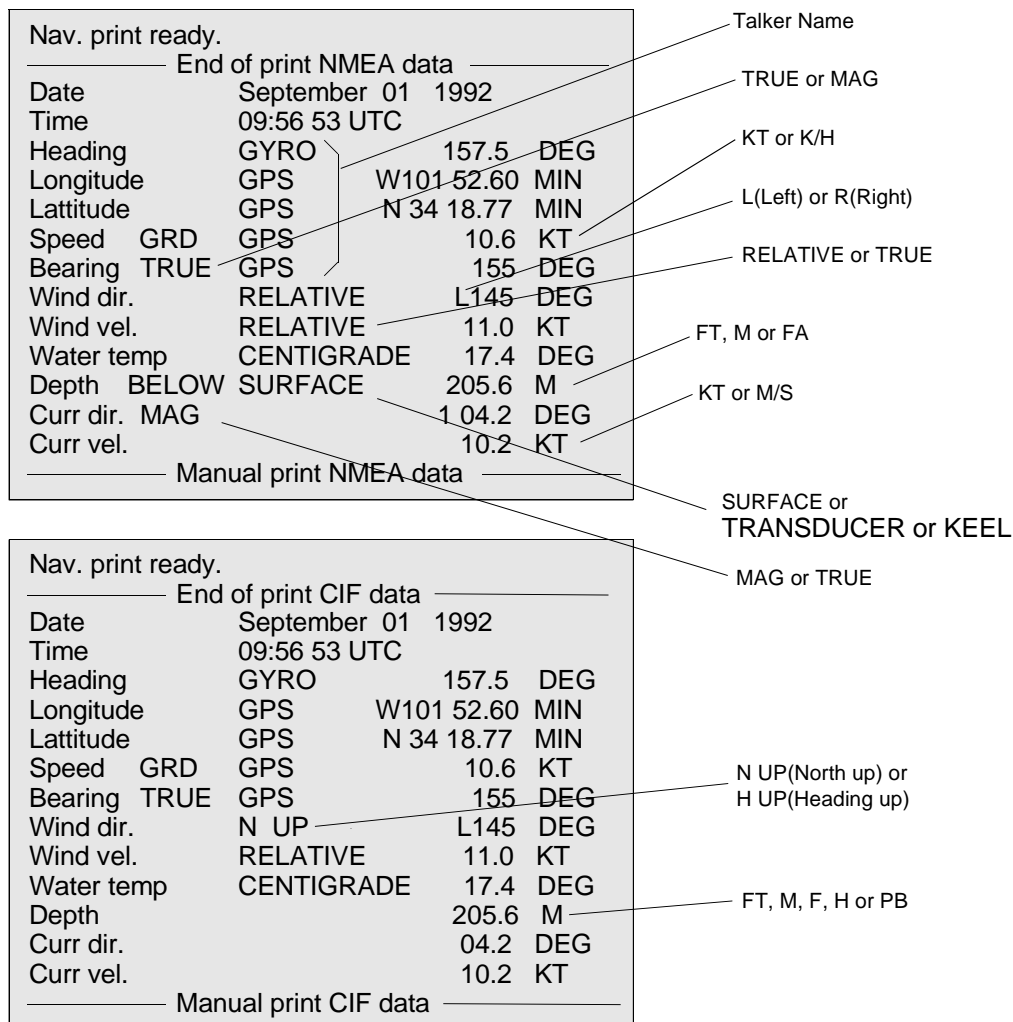

Figure 14. Main Menu F
44. Select MENU-F. The receiver can print out navigation data if interfaced with navigation equipment. To commence printout, select "F" Print NMEA (or CIF) data on main menu (figure 14).